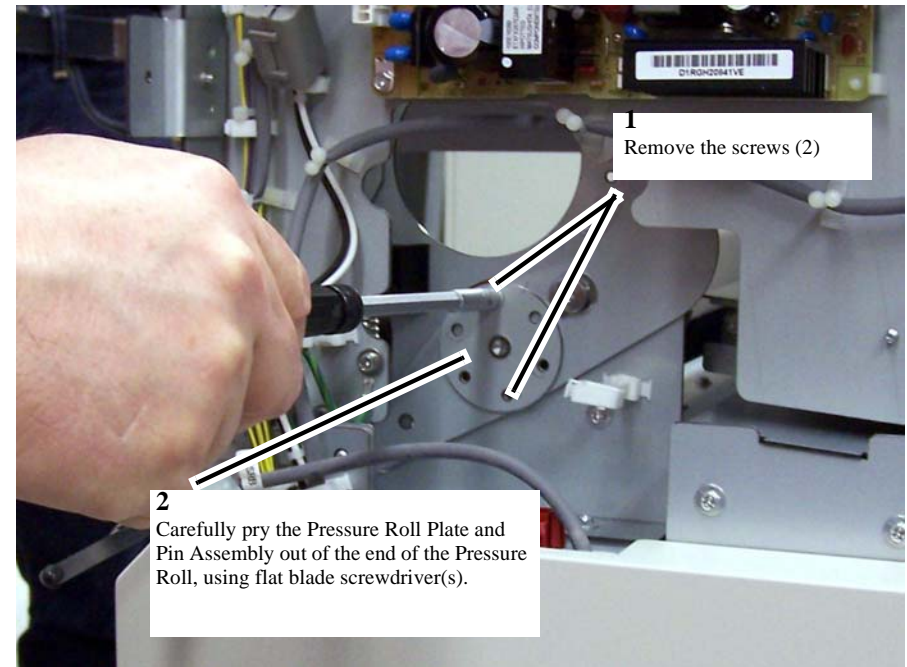
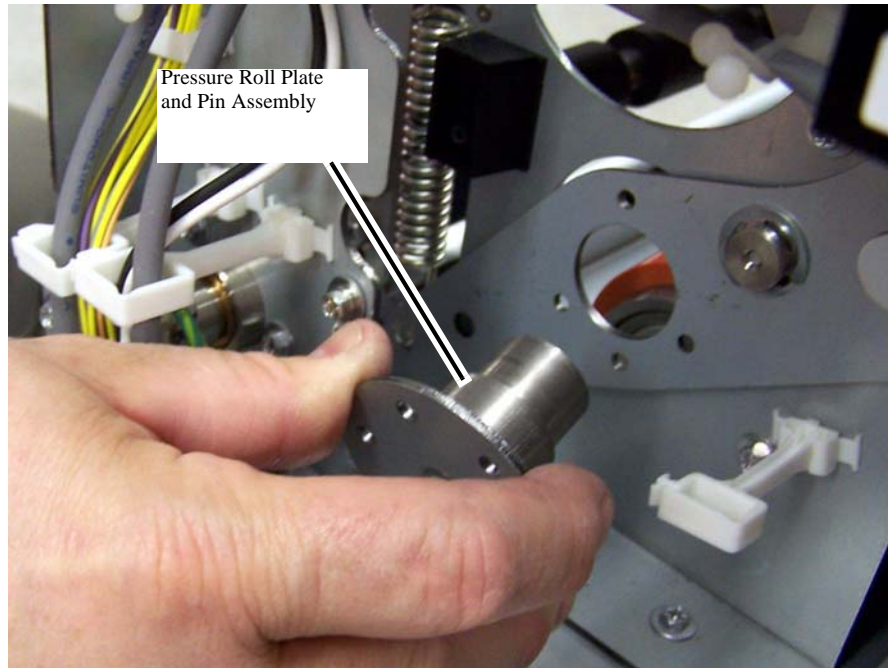

Figure 1 Removing the left end Pressure Roll Plate and Pin Assembly
Figure 2 Pressure Roll Plate and Pin Assembly (same both ends of Pressure Roll)
- a. Remove the Pressure Roll Plate and Pin Assembly (Figure 1 and Figure 2).